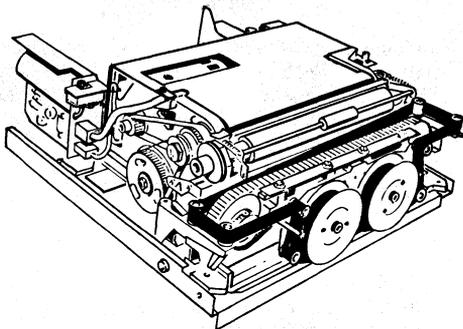

Fig. 1—40P101 and 40P102 80-Column Friction Feed
1.01 This section provides adjustment and lubrication procedures for the DATA-SPEED 40 printers (Fig. 1, 2, 3, and 4).